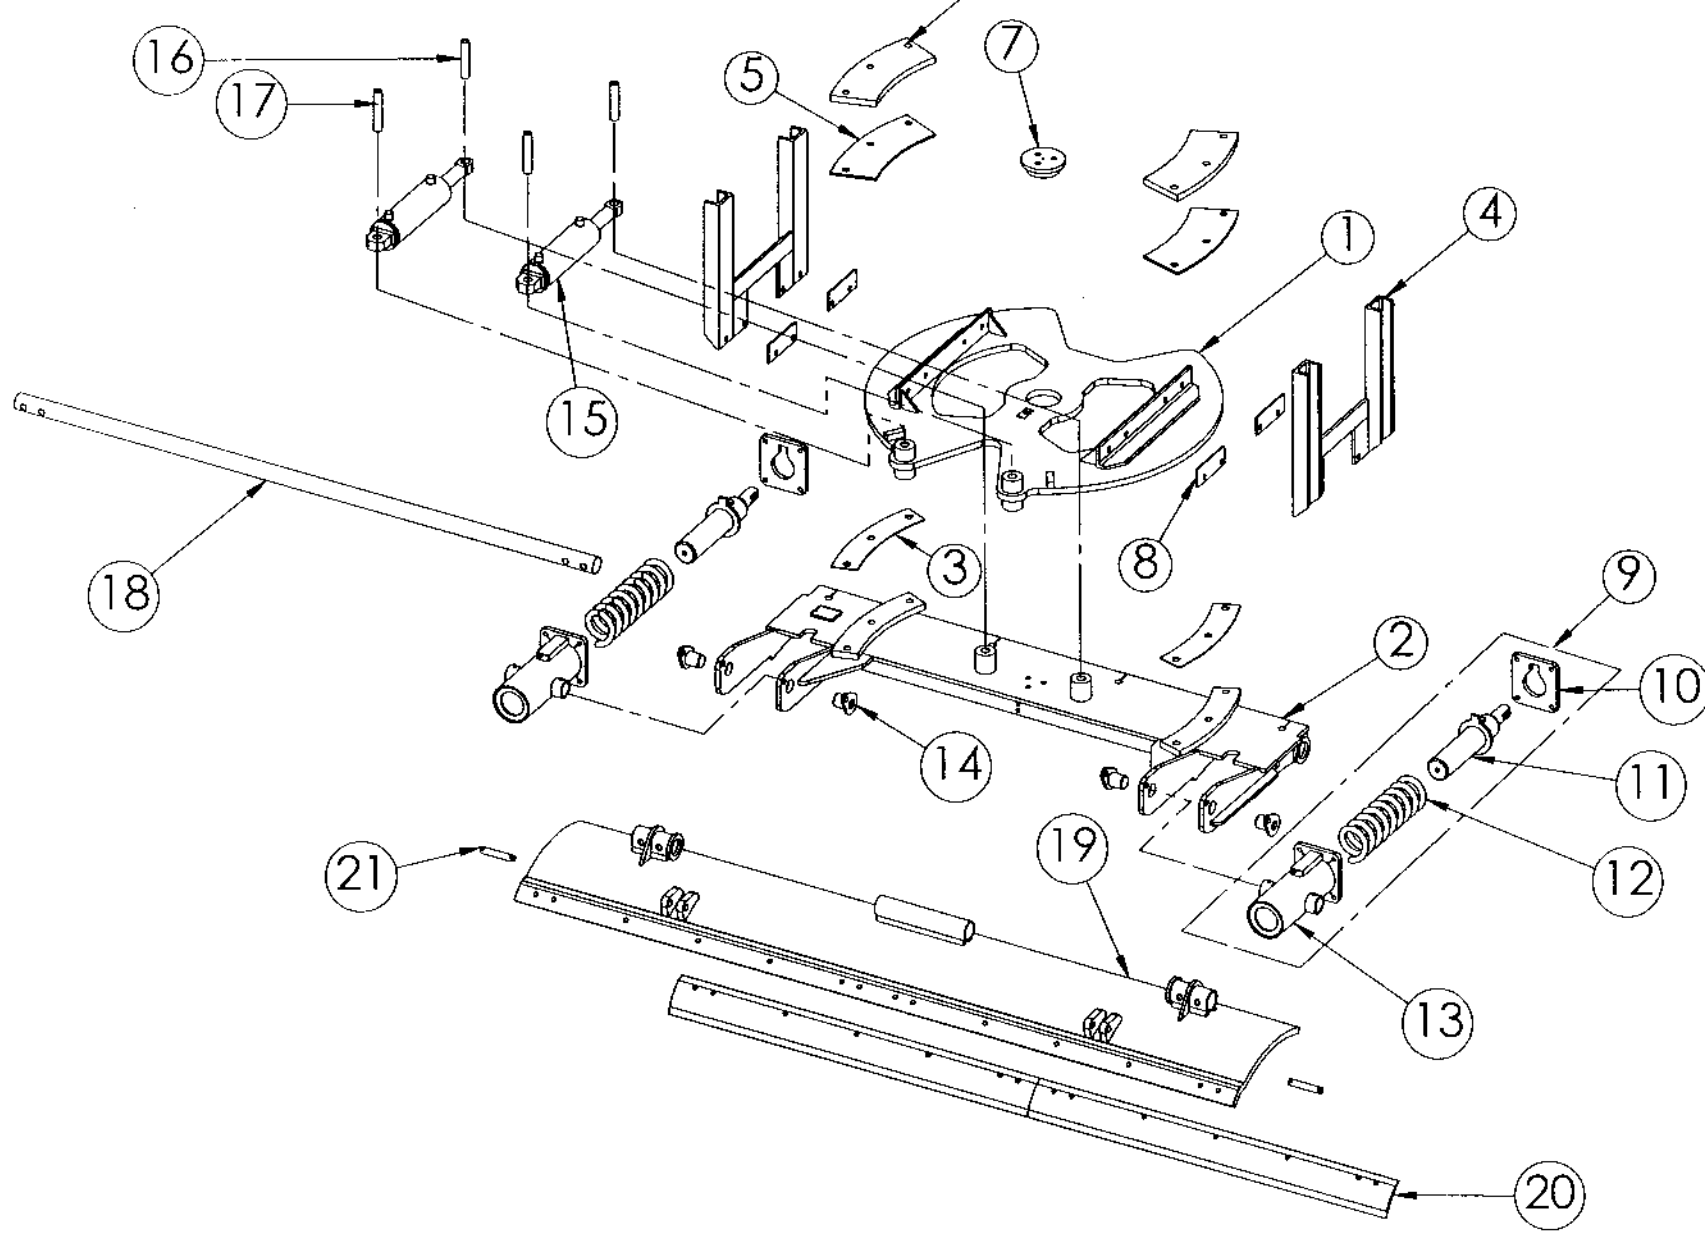

FIGURE 2 - UBS XH EXPLODED VIEW
1. If necessary, remove the circle hanger assemblies (Item 4, Figure 2) temporarily to fit the unit under the truck.
2. Determine whether shims are required to make the distance between the circle hanger assemblies (Item 4, Figure 2) match the distance between the outside of the truck frame rails. The unit is shipped with two shims installed on each side (Item 8, Figure 2), providing a width of 34.5". Remove shims from one side to get to 34.25" width, or remove shims from both sides to get to 34" width.
6. Carefully activate the reversing cylinders and check to see that the UBS XH, when fully angled in either direction, does not strike the tires or any other part of the truck. The unit is shipped with two stop blocks installed on the circle to prevent damage to the hydraulic cylinders. Two additional stop blocks are shipped loose, and must be installed to limit moldboard reversing swing if the UBS XH strikes any part of the truck when reversing. Note: The angle of the actuating canisters (Item 11, Figure 2) changes when the moldboard is actuated. If the canisters come close to striking any part of the truck, the moldboard should be partially actuated (but **not** touching the ground) and the unit should be reversed again to check for obstructions. **Never attempt to reverse the moldboard with the cutting edge touching the ground.**
7. If additional stop blocks are required to limit travel, reverse the unit one way and stop it a safe distance before it hits the obstruction, then tack the stop block in place on the circle in the proper location. Ensure that the 3" side of the stop block fully contacts the end of the circle clamp or wear pad (Item 5 or 6, Figure 2). Repeat this procedure in the opposite reversing direction, if necessary, using the second stop block. Fully weld the stop blocks in place on three sides, leaving the contact side unwelded.